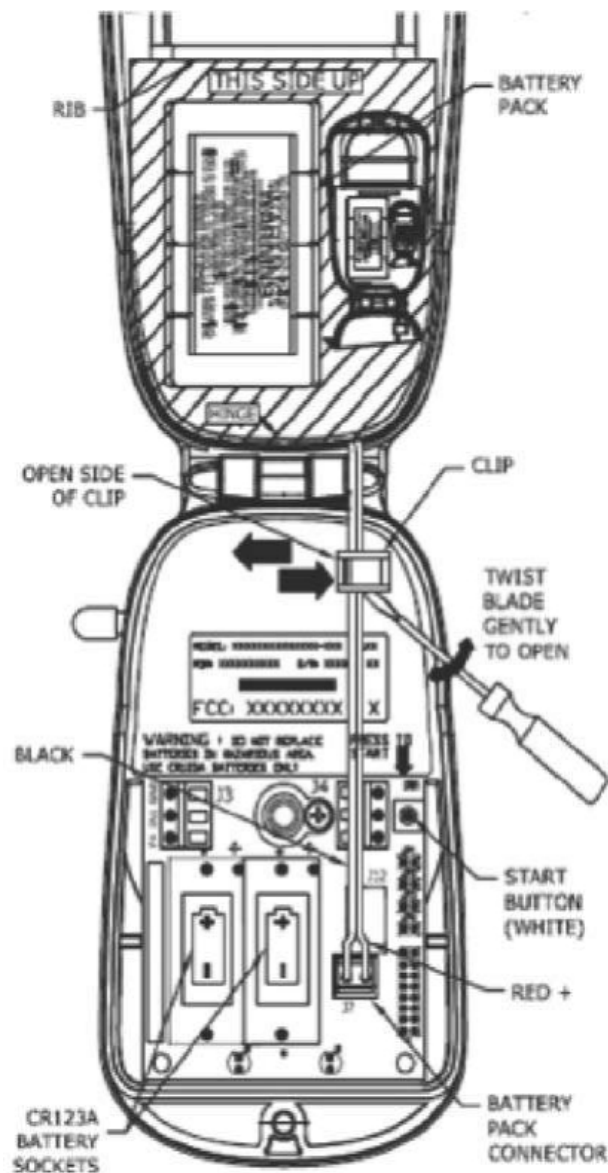

Figure 1. Sentinel Diagram
- 1) Open the top cover of Sentinel by loosening the screw at the front of the lid using a 3/16" flat-head screwdriver. Insert the two batteries into the battery holders and connect the extended life battery pack. Refer to Figure 1 on page 3.
- 1) Open the top cover of the Link by loosening the screw at the front of the lid using a 3/16" flat-head screwdriver. Insert the two batteries into the battery holders and connect the extended life battery pack. Refer to Figure 1 on page 3